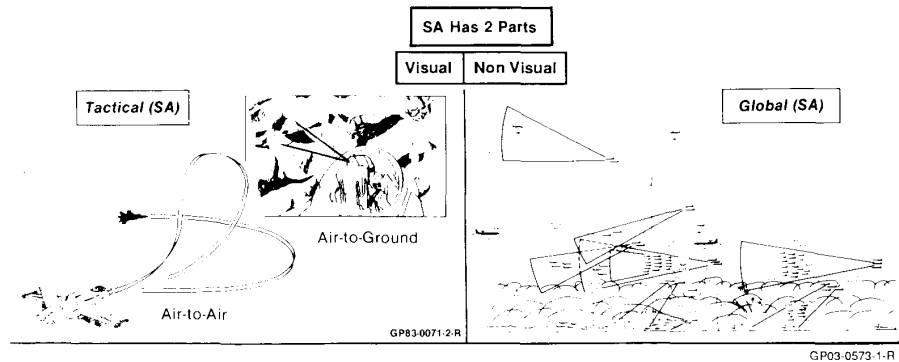

Figure 2. Situational Awareness - "Knowing What's Going on So You Can Figure Out What to Do"
**The Big Picture** - As shown in Figure 2, SA is a two-fold problem: Global and Tactical. Global SA (the Big Picture) generally covers the non-visual spherical world at ranges from 0 to 200 miles. Most often a plan view SA is best, with your own-ship position de-centered because of higher interest and lethality in the forward hemisphere. However, even in a low-intensity conflict, the 100 mile range display could contain hundreds of graphic elements such as unfriendly surface and airborne threats, friendly surface and airborne elements, unknowns, navigation paths, map and symbolic data. Separate, small displays are no match for this complexity.